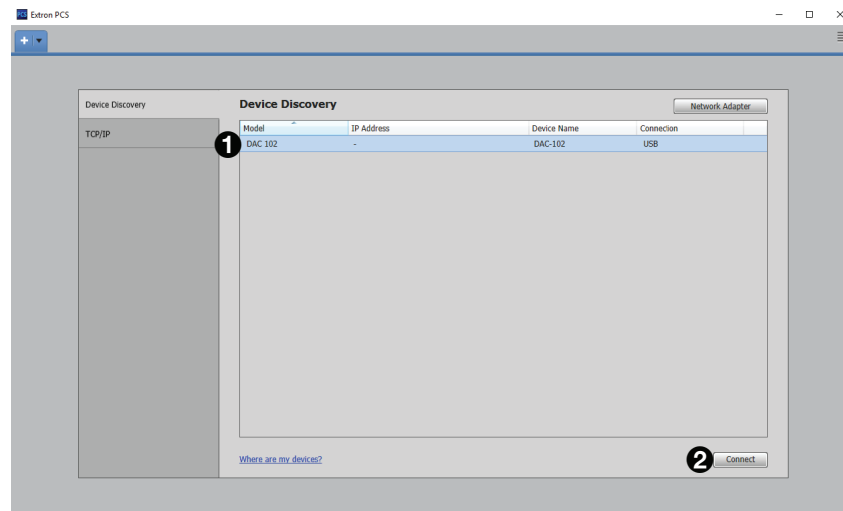

Figure 8. PCS Device Discovery Screen
3. Select the **DAC 102** device by clicking on it to highlight it in the list (see figure 8, ① above).
4. Click **Connect** (②).
The Product Configuration Software opens to the device main menu (see figure 8).